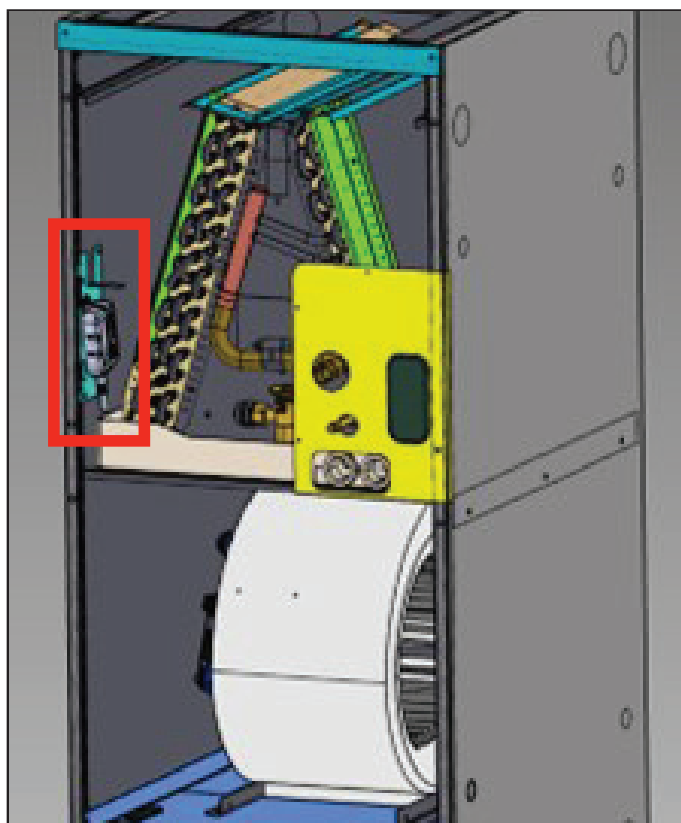

FIGURE 27
- 3 - With air handler access panels removed, install sensor bracket assembly to the side of the cabinet by lining up holes as shown in FIGURE 27.